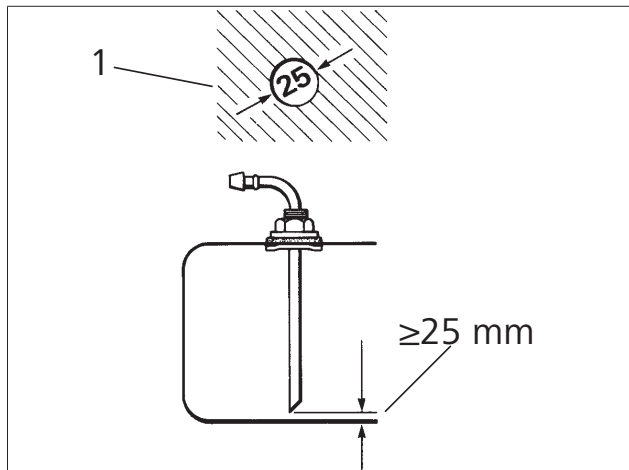

Fig. 33 Webasto fuel extractor (side view)
- Webasto fuel extractor, see Fig. 33.